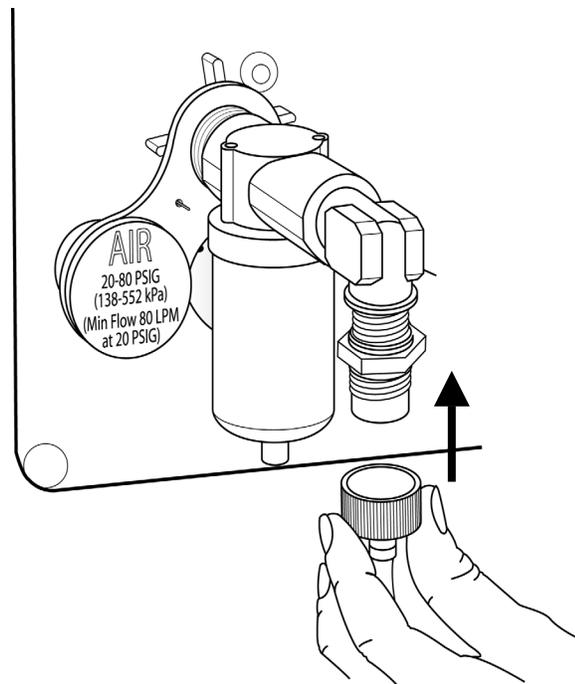

Figure 3.35
3. Attach the Air hose appropriate for your gas configuration. (Fig. 3.35) (Female DISS fitting is shown here).